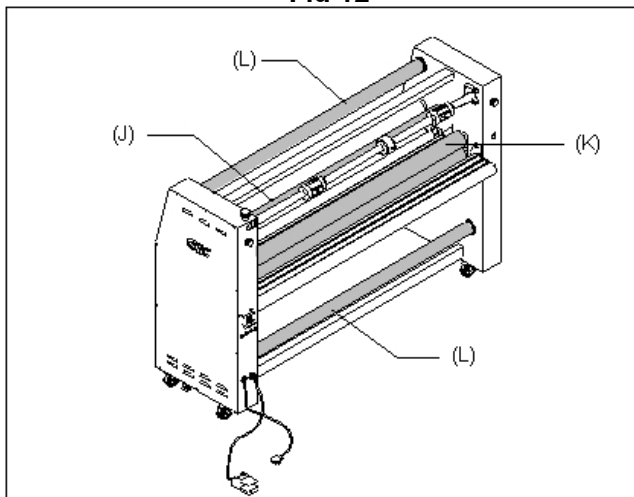

Fig 13
K. IDLER BAR: (Figure 13) The idler bars, located near each heat roller, are used to direct the film to the heat roller nip. The bottom Idler Bar is movable to ease film loading.
L. PULL ROLLERS: (Figure 13) The pull rollers, located at the back of the laminator, are motor driven. They simultaneously pull the film and improve the quality of the laminated item.
M. REWIND TUBE: (Figure 13) The front rewind tube is used to rewind release liner while the rear bottom rewind tube is used to rewind finished product. To remove the rewind tube, push the tube against the rewind brake and remove the tube from the rewind support side.